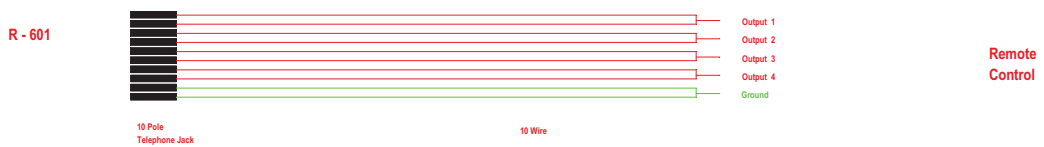

FIG. 4 R-601 Connections
1. **Guitar and Bass direct connection to the TRS ¼" jack.** This connection can use a traditional Jack mono – Jack mono (unbalanced connection) cable or you can also use a jack mono – Jack stereo cable for a better (unbalanced- guitar, balanced-splitter) connection (Fig. 4).
2. **Guitar and Bass connected to the TRS ¼" jack by using a DI BOX (battery powered, low level unbalanced out).** This connection uses a Jack mono – Jack mono (unbalanced connection) cable but in order to obtain better results jack mono – Jack stereo cable should be used (Fig. 4).